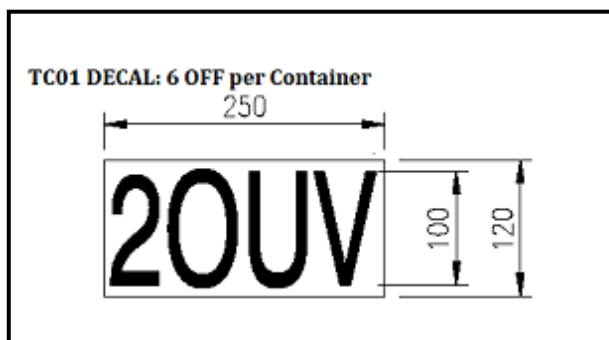
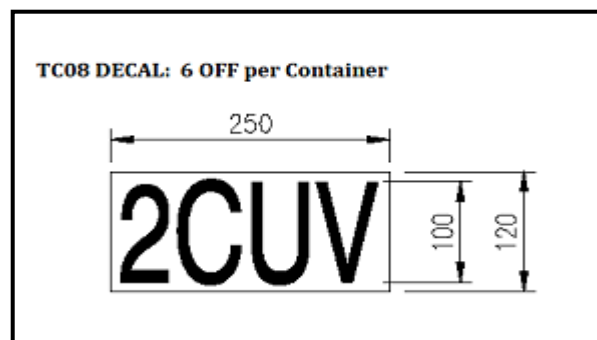

Figure 1: TC01 Reduced Stacking Decal
Figure 2: TC08 Reduced Stacking Decal
This Customer Notice is directed to customers who currently own or are in custody of IP-2 ISO TC01 or IP-2 ISO TC08 designs. All TC01s and TC08s must be fitted with the reduced stacking decals (see Figure 1 and Figure 2). LLWR are distributing decals by courier/post free of charge to customers on a site by site basis, on a priority basis based on international shipments. Please affix the TC01 and TC08 decals in accordance with instructions below immediately upon receipt of the decals.
2. Receive/Obtain decals from LLWR as per fig 1 or fig 2.